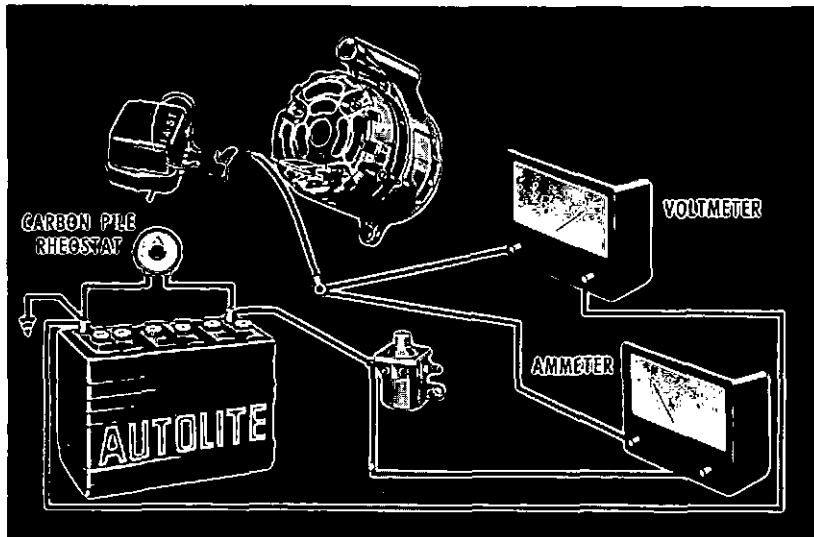

Fig. 7 — Alternator Output Test — Typical
**TEST CONNECTIONS** — The test connections are shown in Fig. 7. Disconnect the battery ground cable. Remove the alternator lead wire from the battery terminal on the starter relay. Connect the ammeter between the starter relay battery terminal and the removed alternator lead wire. Also connect a voltmeter between the removed alternator lead wire and battery negative terminal. If a battery post adapter switch is used, it is not necessary to remove the alternator wire from the starter relay. In this case, the ammeter leads are attached to either side of the switch and the voltmeter leads are attached to the outer side of the switch and battery ground.